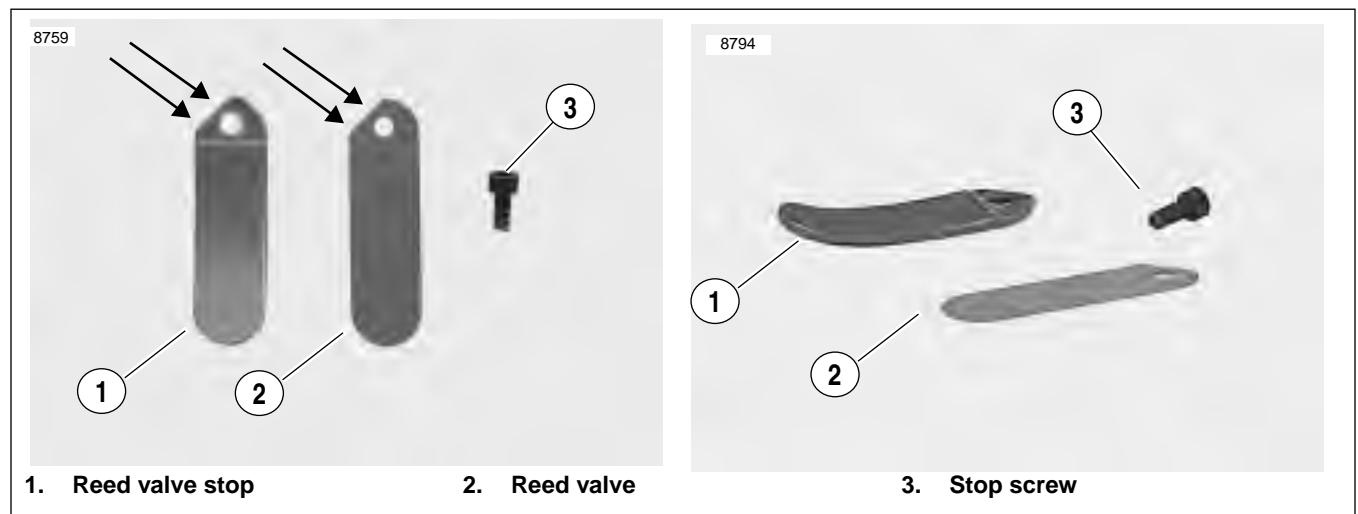

Figure 3-117. Reed Valve Stop and Reed Valve
- See *Figure 3-117*. The reed valve (3) opens on the downstroke to relieve crankcase pressure and closes on the upstroke to prevent vapors returning to the crankcase. The curved reed valve stop (2) limits the movement of the reed valve. See 3.13 CRANKCASE BREATHING SYSTEM.
1. Remove the fastener (1), the reed valve stop (2) and the reed valve (3).
2. See *Figure 3-117*. To replace the assembly, align the edges of the reed valve (3) and the reed valve stop (2) to prevent premature failure of the reed valve.